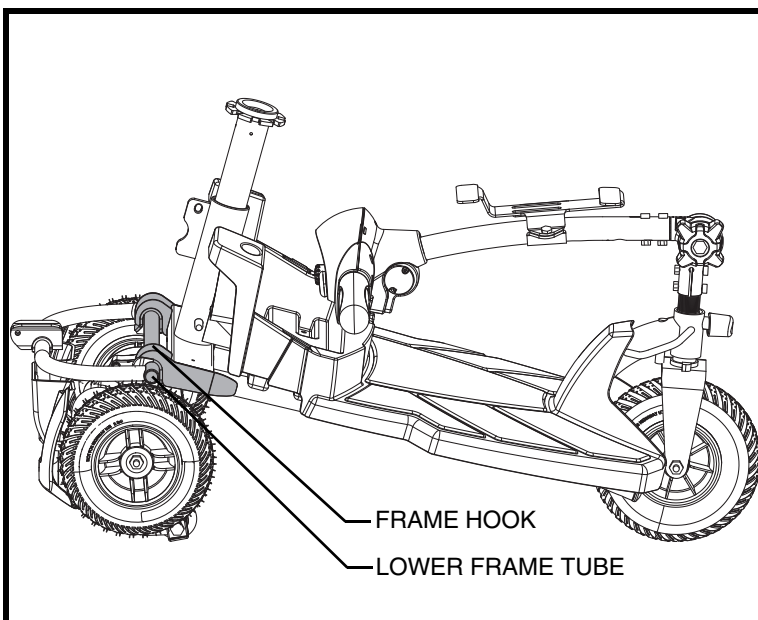

Figure 27. Frame Separation
4. Slowly separate the two sections of the Travel Scooter. **See figure 27.**
**NOTE:** Before attempting assembly, tilt the rear half of the Travel Scooter slightly back on the anti-tip wheels as show in figure 27.
1. Use the seat post to lift the front section as you align the frame hooks of the front section with the lower frame tube of the rear section. **See figure 27.**